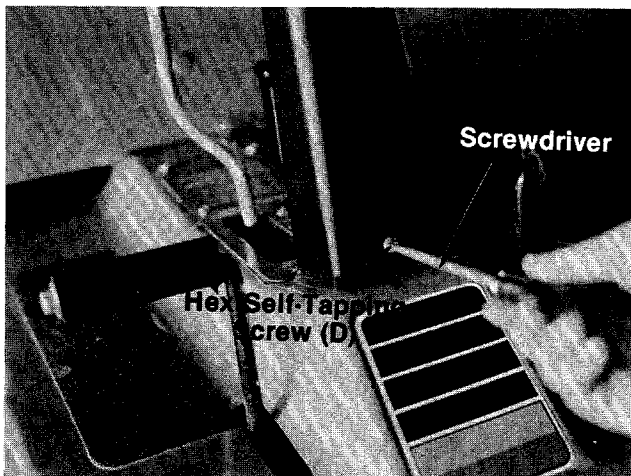

FIGURE 4.
7. Secure cover to support bracket with two self-tapping screws (D) provided. See figure 4. ←